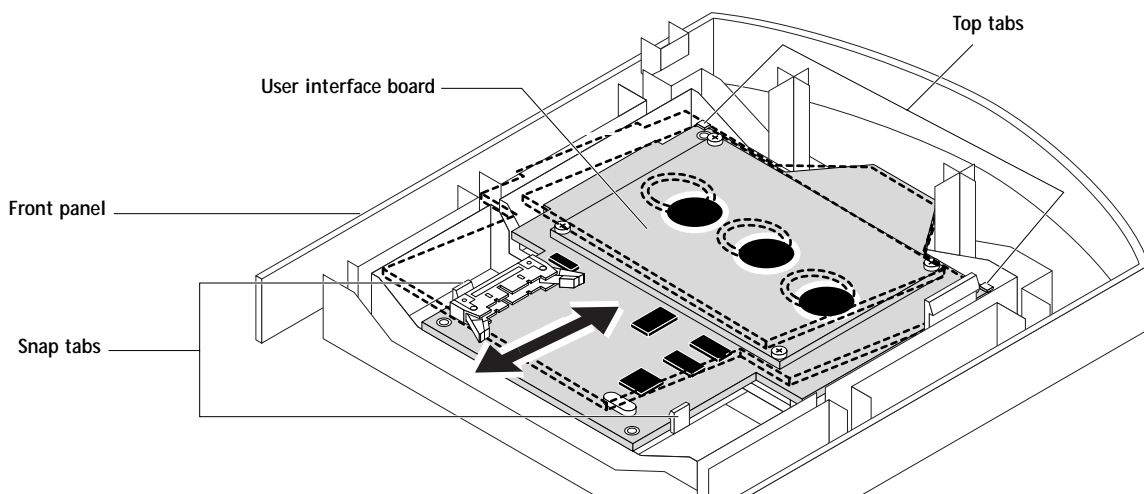

FIGURE 4-14 Removing the user interface board
5. Lift up slightly on the bottom edge of the board and slide the board out from under the top tabs on the front panel (see Figure 4-14).
1. Place the user interface board in the front panel at an angle so that the top edge of the board fits under the top tabs (see Figure 4-14).